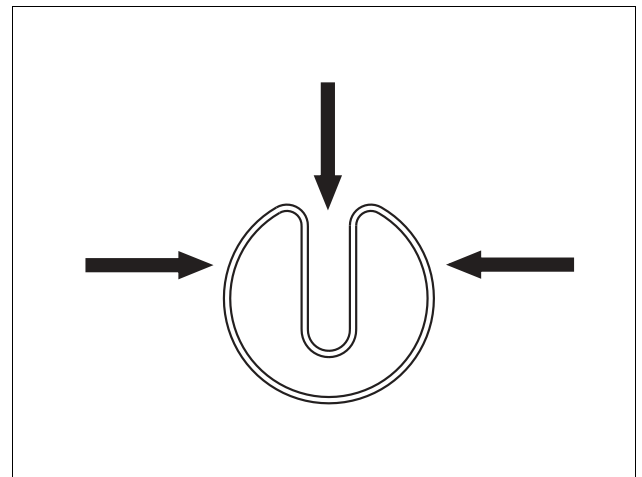

Fig. 42 Compressing Swivel Seal Ring
6. Compress the seal rings. *See Fig. 42.*